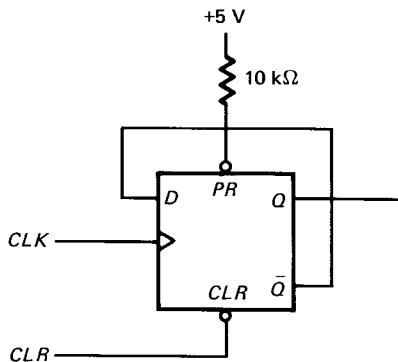

Fig. 7-20
- 7-6. In Fig. 7-20, *CLR* is taken low temporarily, then high. Draw the timing diagram. If the clock has a frequency of 1 MHz, what is the frequency of the *Q* output? Is this a divide-by-2 circuit?